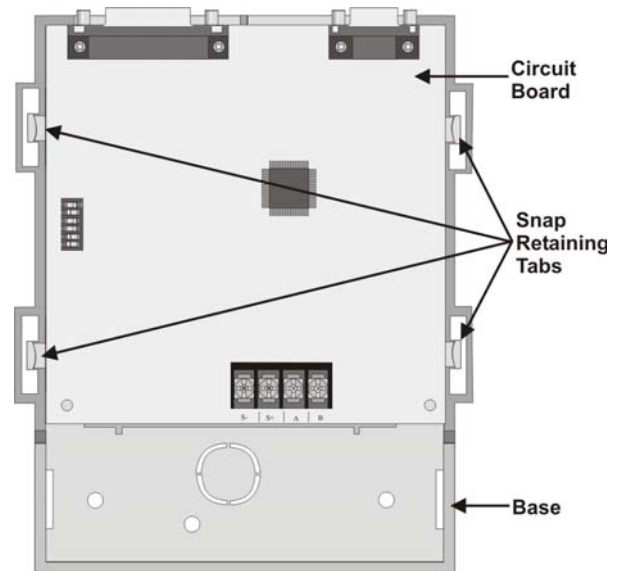

Figure 1: ANN-S/PG Circuit Board And Enclosure Base
2. Remove the ANN-S/PG circuit board from the enclosure base by pushing outward on one of the snap retaining tabs at the bottom (as orientated in Figure 1) and lifting the circuit board out.